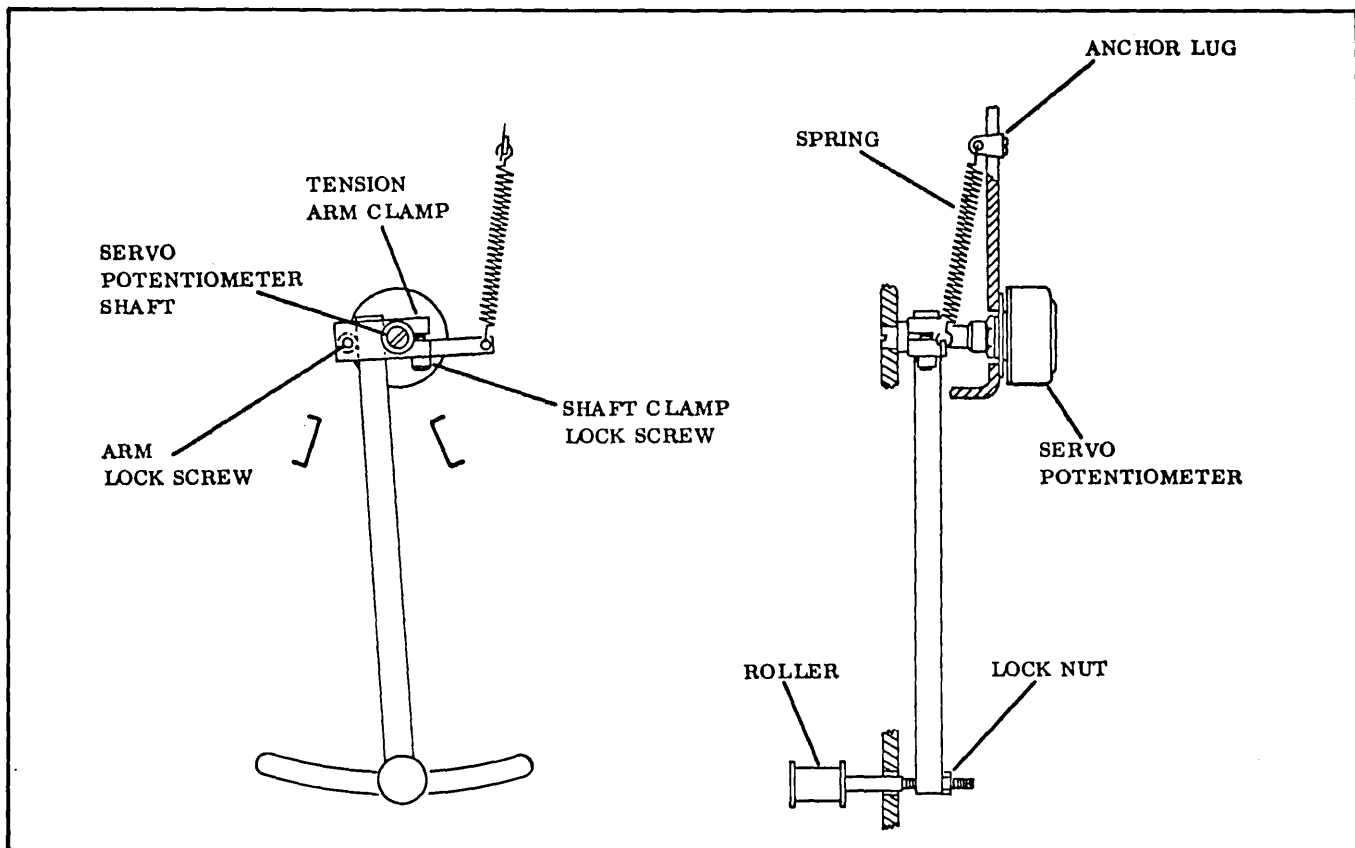

Figure 5-1. Tension Arm Adjustments
1. Tension Arm Return Force (Ref. Figure 5-1)
2. Servo Potentiometer Angular Position (See Figure 5-1)
- a. Loosen lock nuts on roller shafts (Figure 5-1).